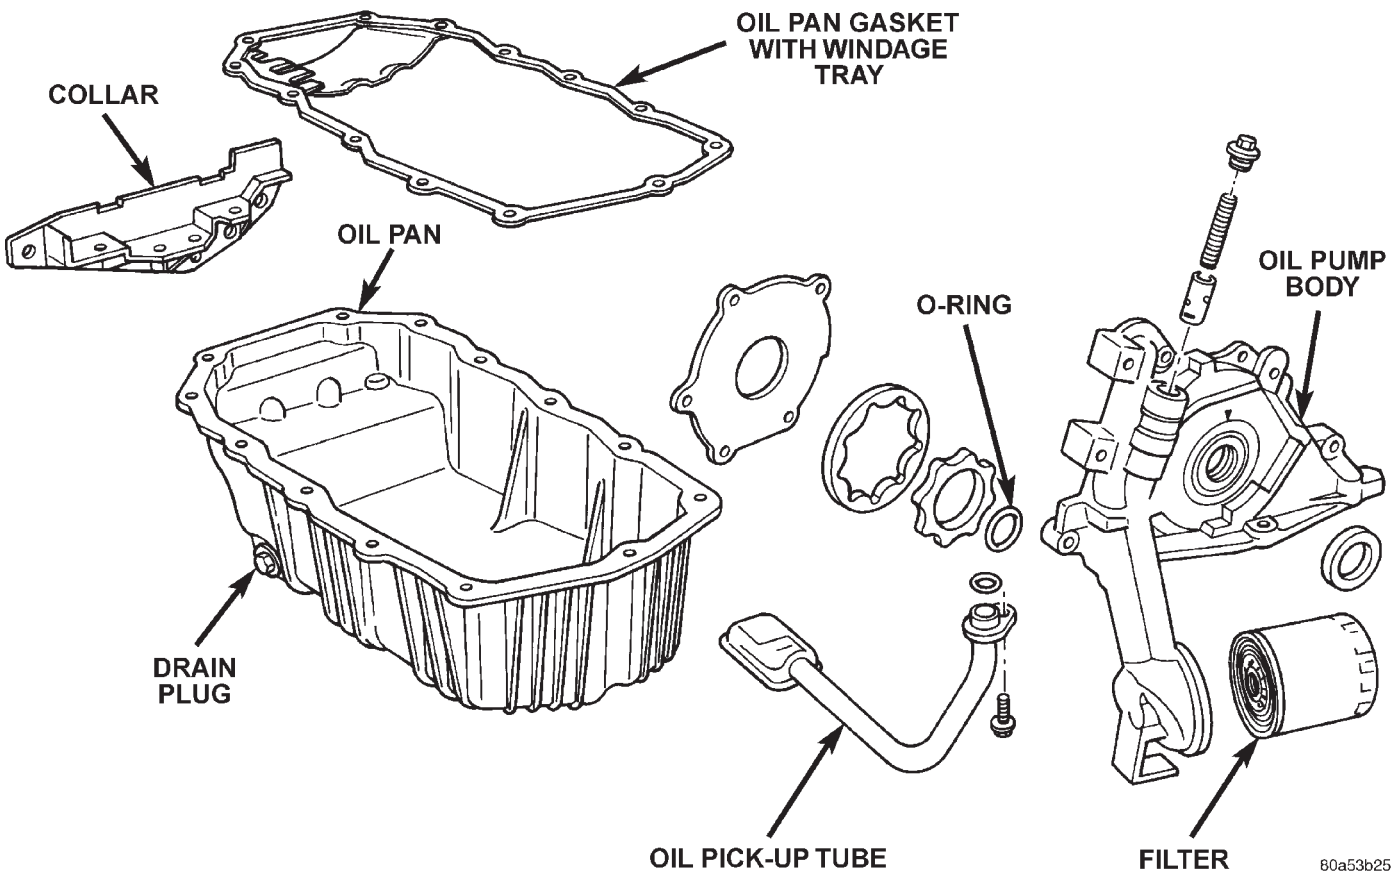

Fig. 87 Oil Pressure Relief Valve
(1) To remove the relief valve, proceed as follows:
- (a) Remove the threaded plug and gasket from the oil pump (Fig. 87).
- (b) Remove spring and relief valve (Fig. 87)
- (2) Remove oil pump cover screws, and lift off cover.
- (3) Remove pump rotors.
- (4) Wash all parts in a suitable solvent and inspect carefully for damage or wear.
CAUTION: Oil pump pressure relief valve must be installed as shown in (Fig. 87) or serious damage may occur.
- (4) Install relief valve, spring, gasket and cap as shown in (Fig. 87). Tighten cap to 41 N·m (30 ft. lbs.)